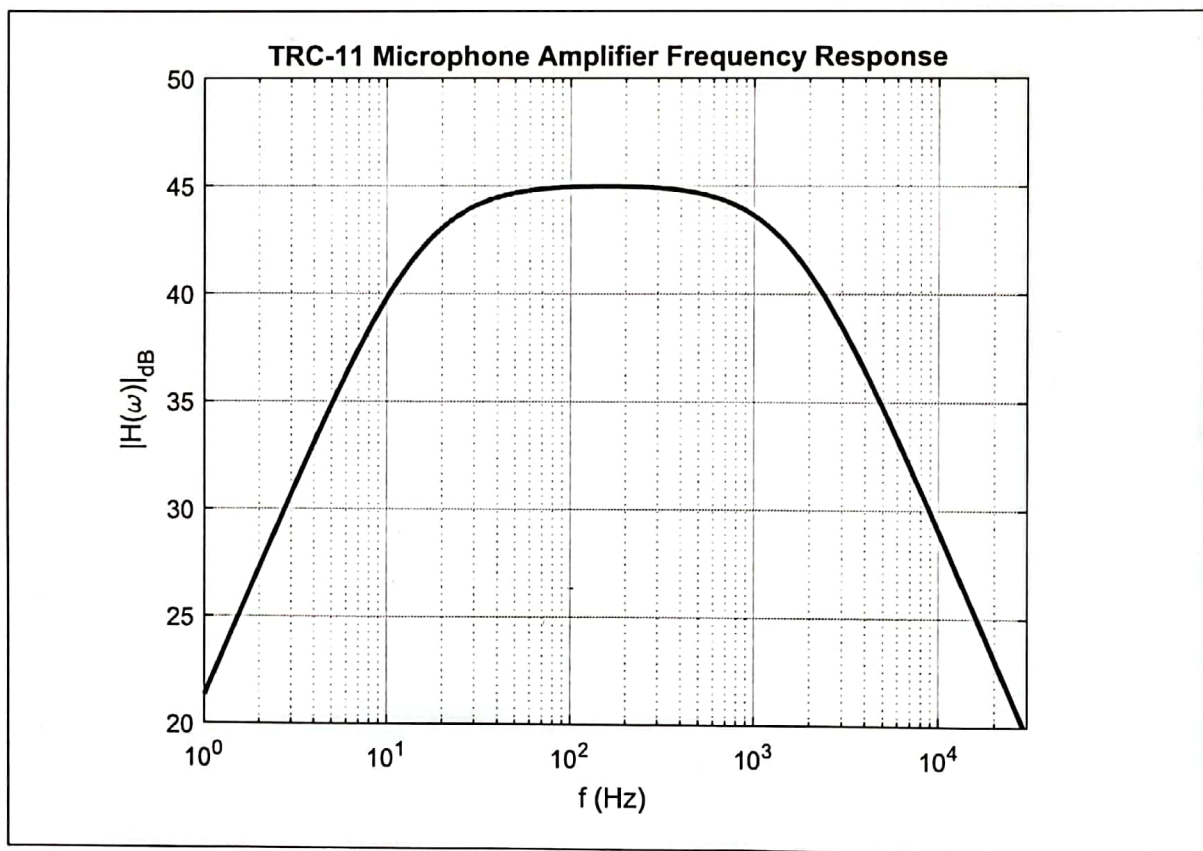

Figure 3: Calculated Frequency Response of the Microphone Amplifier
3. The gain function in decibels is plotted in Fig. 3. If $f_1 \ll f \ll f_2$, then $|v_o/v_{in}| = A_v = 20 \log_{10} A_v = A_{v\text{dB}}$. If $f = f_1$ or $f = f_2$, then $|v_o/v_{in}| = A_v/\sqrt{2} = A_{v\text{dB}} - 3\text{dB}$ (3 dB less than the low frequency value).